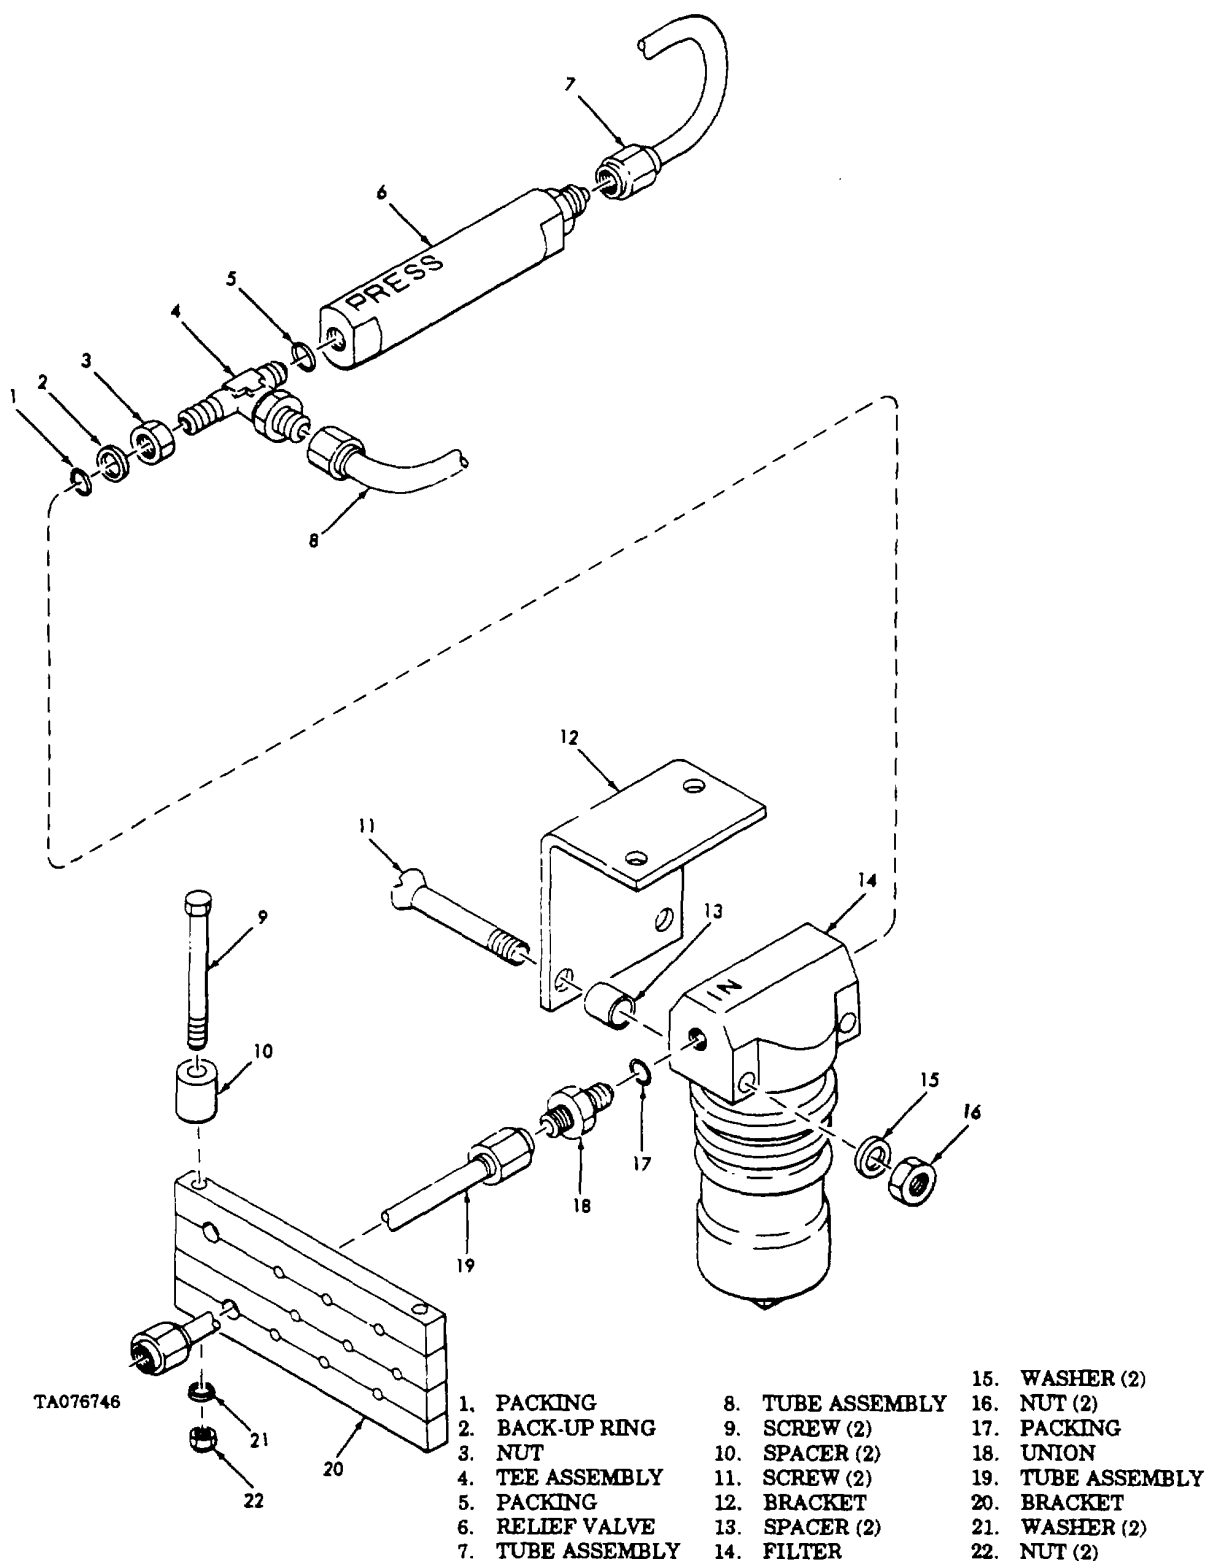

Figure 3-97. Hydraulic Fluid Filter Removal.
a. Removal (fig. 3-97)
(1) Loosen nut (22) and screw (9) sufficiently to allow movement of tube assembly (19) in bracket (20).
(2) Disconnect tube assemblies (7, 8 and 19) from union (18) and tee assembly (4), and valve (6).
(3) Remove relief valve (6) and packing (5).
(4) Loosen nut (3) and remove tee (4) and associated-parts (1, 2 and 3).
(5) Slip tube assembly (19) away from union (18) and remove union and packing (17).
(6) Remove two each nut (16) and washer (15).
(7) Remove two each screw (11) and spacer (13) and remove filter (14) from bracket (12).